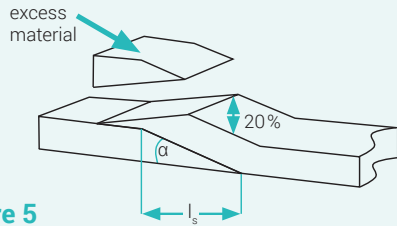

Figure 5
- Cut away excess material with an angle of 15 degrees. The interface should be 20 % thicker than the original sealing tape (figure 5).